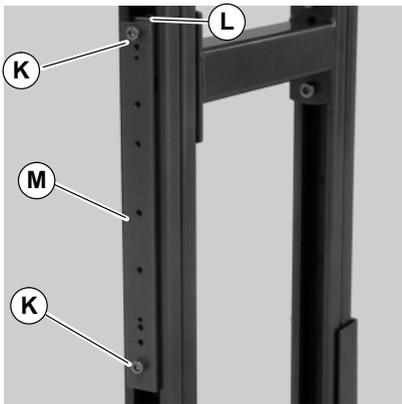

Figure 14
2. Attach mounting bar (M of Figure 14) to Spring Nuts (L) with screws (K). Slide mounting bar to its desired location and tighten screws (K).